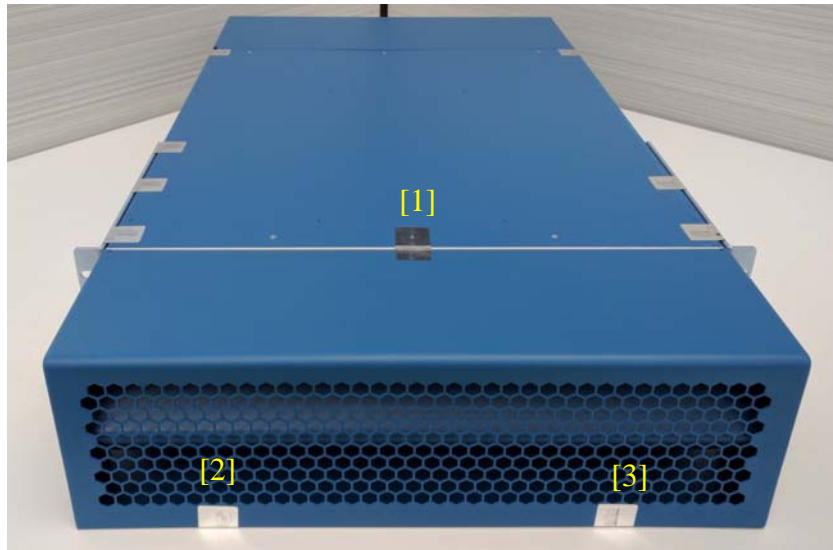

Figure 48 - PA-5200 Series front Opacity Shield
Refer to Appendix H for instructions on installation of the tamper seals and opacity shields for the PA-5200 series. The locations of the twenty-eight (28) tamper evident seals implemented on the PA-5200 Series modules are shown in Figure 48 through Figure 51